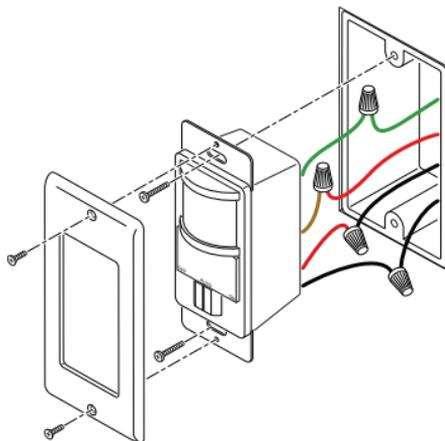

Figure 4 - Mounting the 3-Way Motion Switch
5. Mount sensor into junction box using two large mounting screws provided (see Figure 4).
1. Replace control panel cover and attach the decorative wall plate (see Figure 4). In installations where the motion sensor switch is combined with other switches or outlets on an expanded box, you will need to purchase a combination wall plate. Various combination wall plates are available at home centers and electrical supply stores.